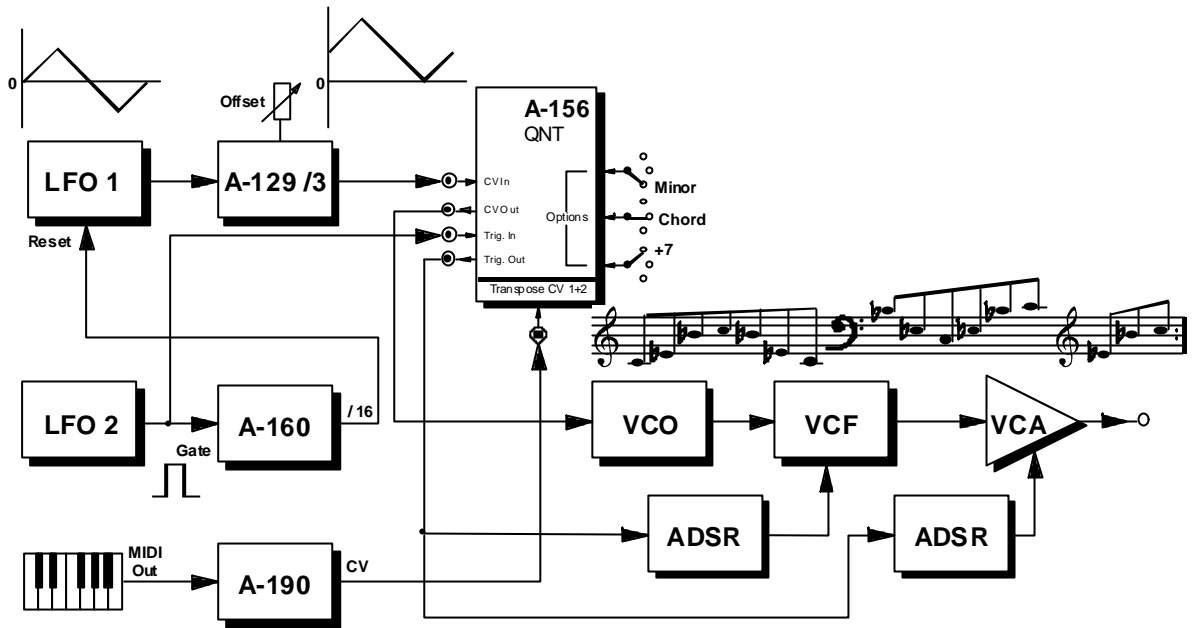

fig 7: arpeggio-like sound patterns
**Arpeggio-like effects**, especially, can be realized very easily. The patch in fig. 7 can be used as a basic set-up for further experiments.
In the patch in fig. 7 LFO1 is reset every 16 trigger events to obtain a periodic arpeggio with 16 "notes".
P Instead of the lower sequencer a MIDI keyboard in combination with a MIDI-to-CV interface (A-190) may be used for transposition (see fig. 7).